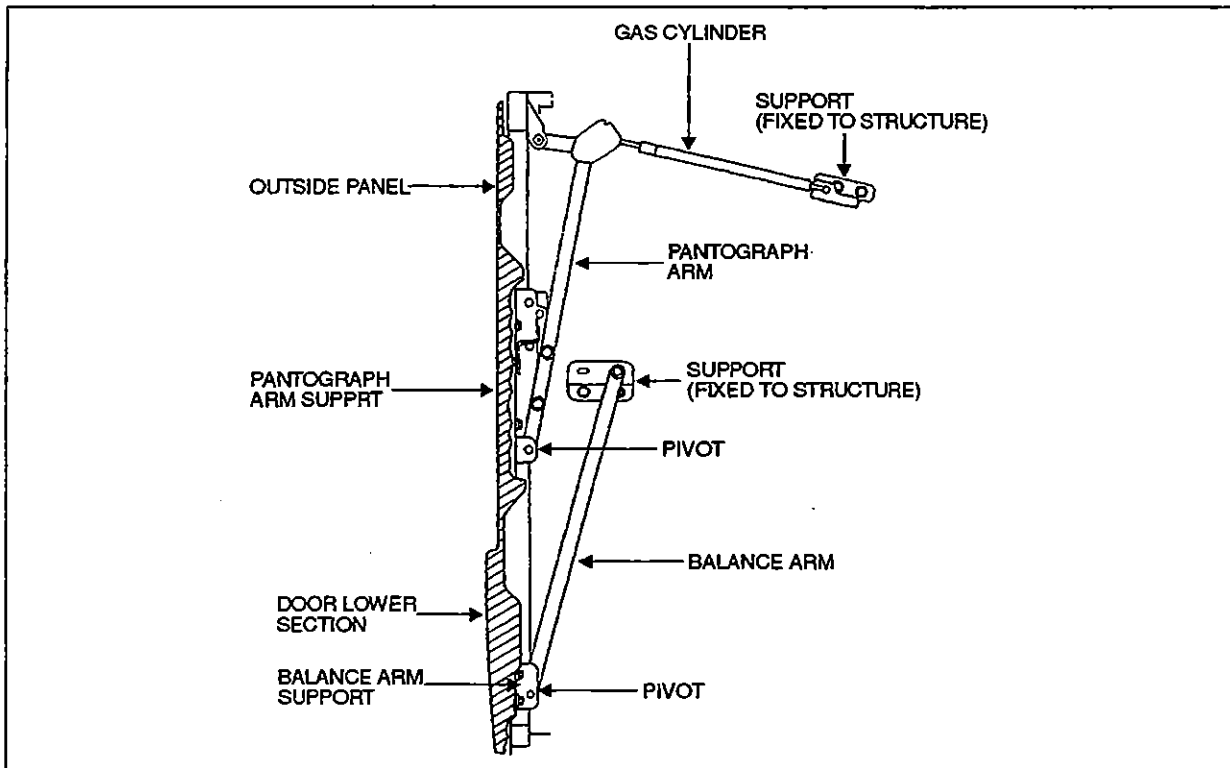

Figure 18
**Note:** Refer, if needed, to figure 18 for identification of door components.